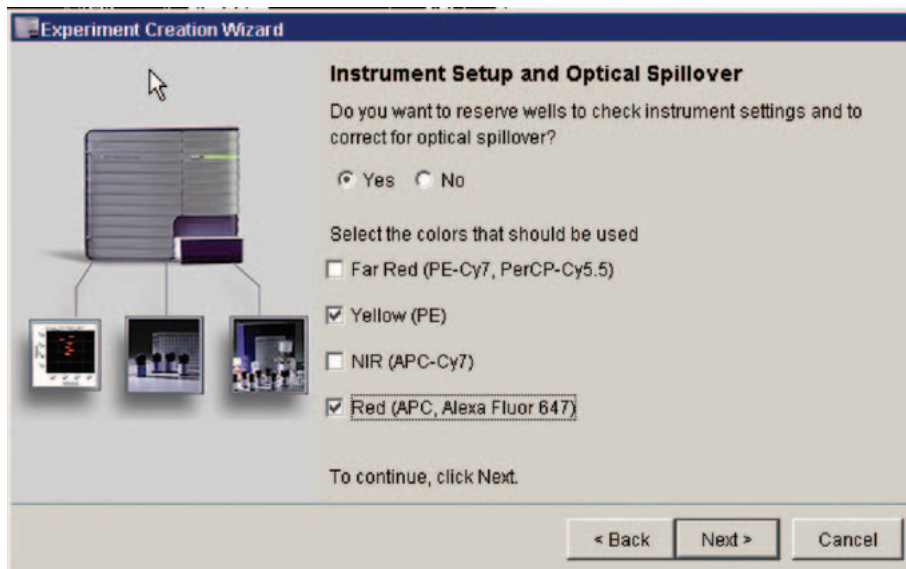

Figure 4
- The Instrument Setup and Optical Spillover view appears (*Figure 4*).